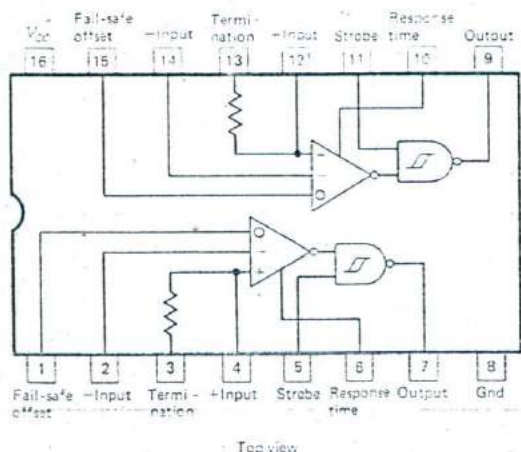

Fig. 13-21 Integrated circuit DS78LS120 dual differential line receiver (National Semiconductor).
Figure 13-21 shows a DS78LS120 *dual differential line receiver* that can be used to receive both RS-422 and RS-423 data transmissions. The response time of each receiver can be controlled with an external capacitor. This is useful for filtering out high-frequency noise that may be superimposed on the signal. Also note that the output gate has hysteresis. The combination of response control and hysteresis is very helpful for producing a clean output signal in noisy industrial environments. Each receiver includes a built-in terminating resistor that is enabled by strapping pins 2 and 3 together for one receiver and pins 13 and 14 for the other. It is advisable to terminate long transmission lines to prevent signal reflection. When a line is not properly terminated, all of the signal energy is not absorbed at the load end. Some is reflected back toward the source. It can be rereflected at the source and travel toward the load again. These reflected signals act as noise
Figure 13-21 also shows that each line receiver contains a fail-safe offset input. *Fail-safe operation* involves forcing the output to a known condition in the event that the data circuit opens or short-circuits. When pins 1 and 15 are connected to +5 V, the input thresholds are offset from 200 to 700 mV, referred to the noninverting input, and from -200 to -700 mV when referred to the inverting input. If the input should open or short-circuit, the input will be greater than the input threshold, and the receiver output will remain in a specific logic state.
- Refer to Fig. 13-21. What does the symbol inside the NAND gates signify?